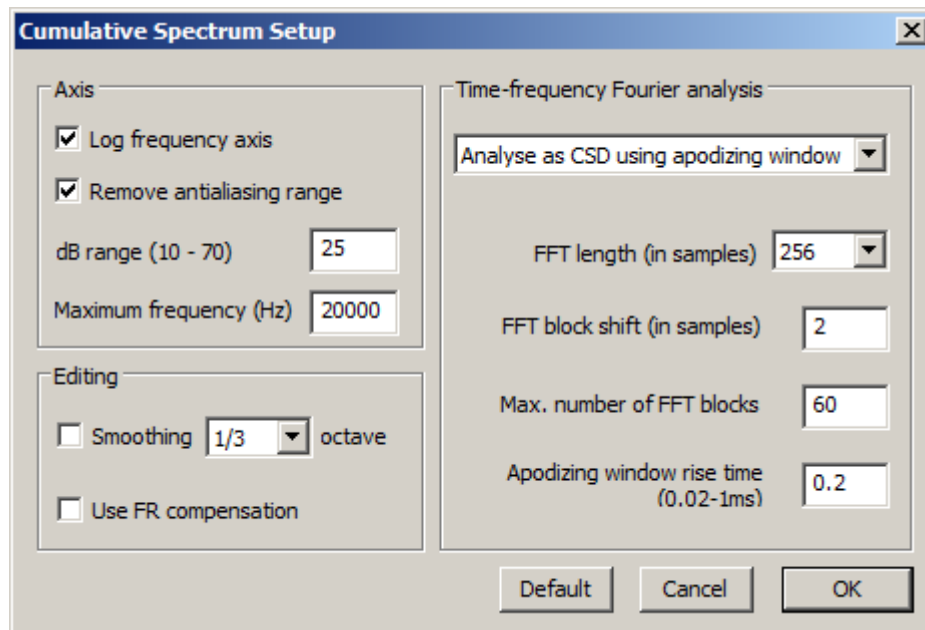

Figure 6.20 Dialog box for Cumulative spectrum setup
- 4) By clicking the menu command '**Analysis-Cumulative spectrum**', which opens the dialog box '**Cumulative Spectrum Setup**' (Fig. 6.20), set parameters of the CSD time-frequency transform.
- 4) By clicking the menu command '**Analysis->Cumulative spectrum**', which opens the dialog box '**Cumulative Spectrum Setup**' (Fig. 6.20), set parameters of the STF.